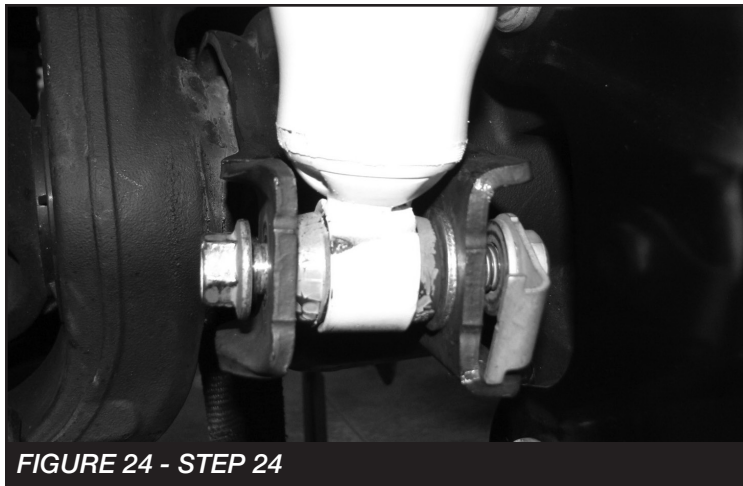

FIGURE 24 - STEP 24
24. Install the new front shocks FTS7236, FTS6236 or FTS810962 with the supplied bushing kits. Use the factory hardware and a supplied 9/16" washer to fill the space at the lower mount. **SEE FIGURE 24. NOTE:** Due to vehicle variances the top of the lower shock mount may need to be sanded down to clear the shock body only if installing Stealth shocks. **SEE FIGURE ON LAST PAGE.**